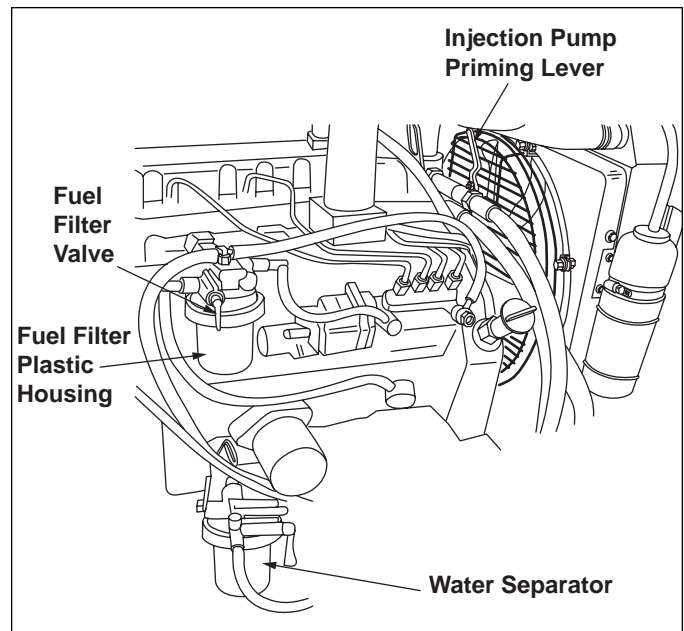

Figure 4-7. Fuel Filter
1. Turn the fuel filter valve (Figure 4-7) to the open position (vertical).